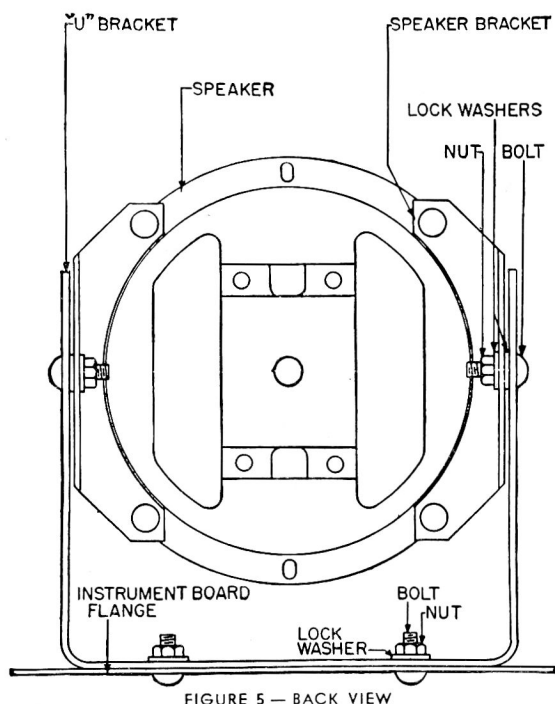

FIGURE 5 — BACK VIEW
**INSTRUMENT BOARD SPEAKER** — (Kit Part No. 91-0140). Using the "U" bracket as a template, locate and drill two 1/4" holes in the flange of the instrument board, so that when the speaker is assembled to the bracket, it will line up behind the speaker opening in the grille. Loosely assemble the "U" brackets and the adjustable side brackets. Bolt the speaker to the side brackets, placing the screen with the rubber gasket attached, against the face of the speaker and bend the four ears of the screen over the edge of the speaker. Cut the cardboard baffle to size and place it against the inside of the speaker grille. Hold the speaker and bracket in position, behind the grille, and adjust the side brackets so that the speaker comes directly behind the speaker opening. Use enough cardboard spacers under the "U" bracket to clear any obstruction on the inside flange of the instrument board. Then bolt the "U" bracket in place on the instrument board flange (see Figures 5 and 6). Fasten the side brackets securely in position. Complete instructions are packed with each speaker kit.